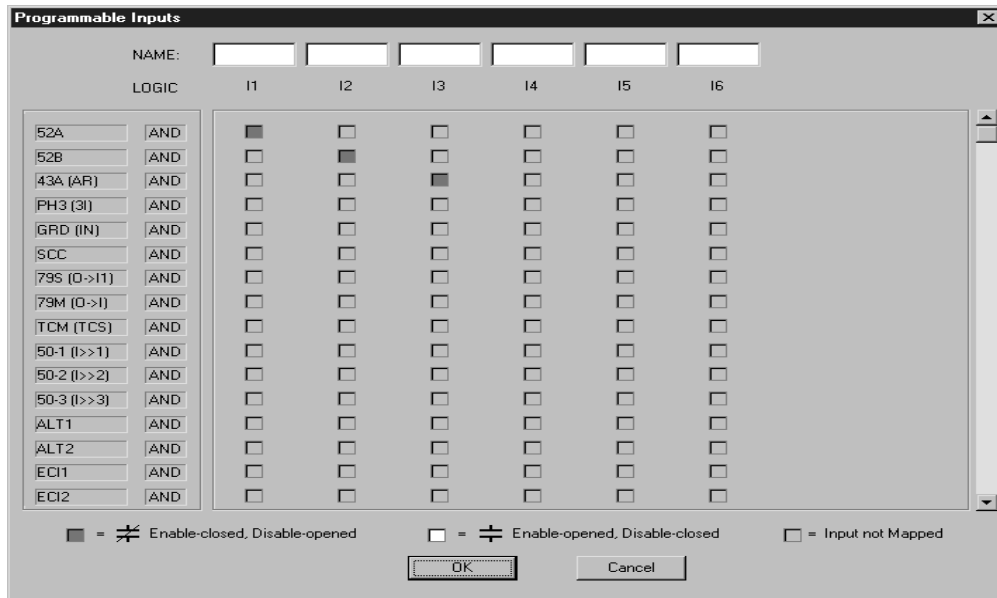

Figure 6-1. Programmable Inputs Screen
Figure 6-1 shows the factory default settings for mapping the programmable inputs. The color red is used when a closed contact (voltage present) enables the function and the color white is used when an open contact (voltage absent) enables the function. Place the label in the column under the desired contact input’s line. For example, based on the factory default settings, you must apply control power to Input 1 to enable logic input contact 52a (XO).